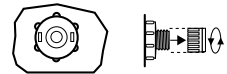

Figure 13.2j
2. Locate the drain valve located on the front left corner on the black plastic pan. Hold the larger (rear) drain valve body to prevent it from turning, then loosen and remove the front cap to expose the underlying male hose threads, Figure 13.2j.